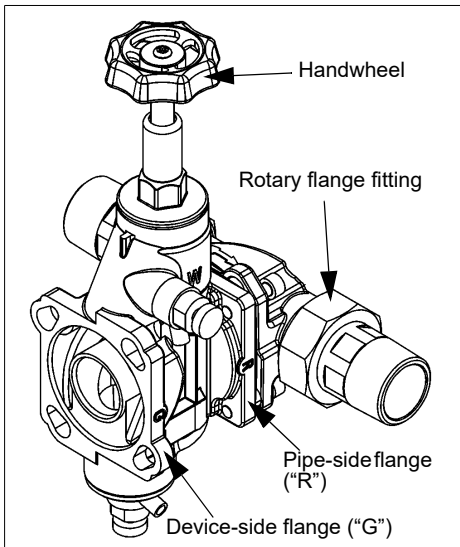

Abb. 8: Bypass valve (JQX)
- Connect the bypass valve with the rotary flange fitting, by engaging the bayonet, on the flange side with the cast-in letter "R" (R=Rohr [pipe]) (see fig. 8).